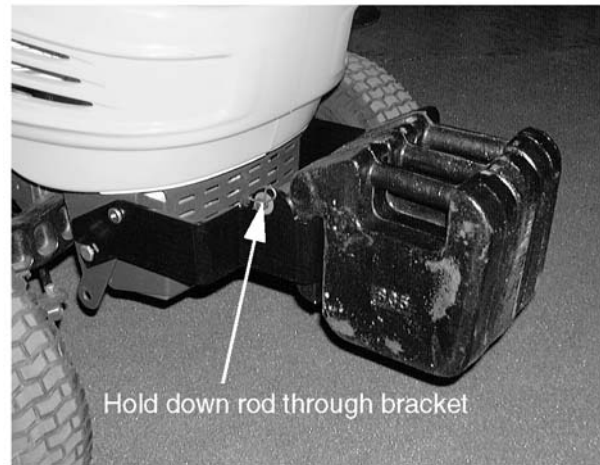

Figure 8-62.
7. After all three weights are mounted, insert the hold down rod into the weight bracket and secure it with the washer and hairpin clip. See Figure 8-62.